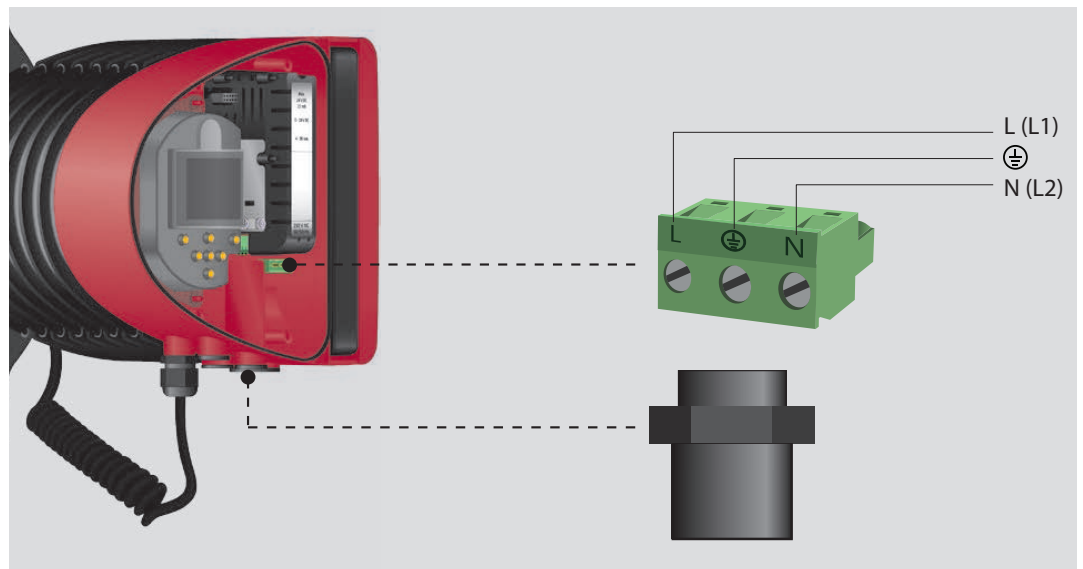

Figure 5: High voltage wiring
5. Complete high voltage wiring to the pump. Locate the power supply plug and conduit adapter in the box supplied with the pump. Connect wiring from pump disconnect to the pump terminal block as shown in Figure 5. Pump terminals are labeled L, N, and ground (symbol) for both 208-230V and 115V pumps. For 208-230V pumps, connect L to L1 and N to L2; for 115V pumps, connect L to L and N to N. Wiring must meet all applicable code requirements, including requirements for wire protection, such as conduit. Wire and breaker/fuse size must be determined based upon pump nameplate ratings.